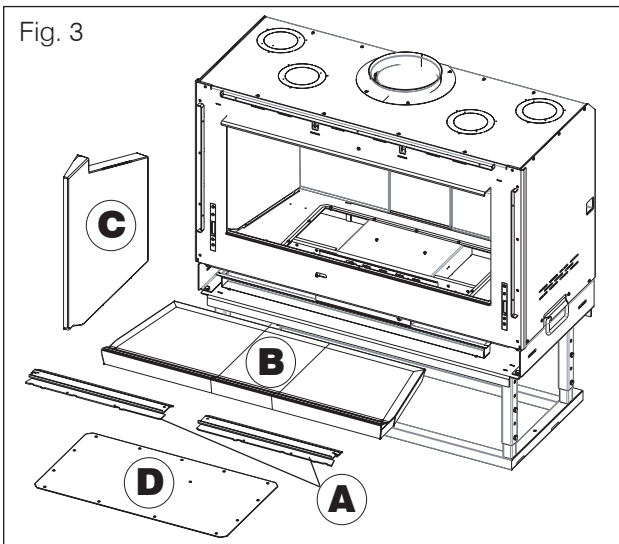

Fig. 3
- remove the two deflectors (**A** - Fig. 3), the top deflector, the sides (**C** - Fig. 3), the fire plane (**B** - Fig. 3).
- remove the screwed-in plate (**D** - Fig. 3) and the plate below (**E** - Fig. 4), also screwed-in, to access the compartment housing the thermostatic valve.